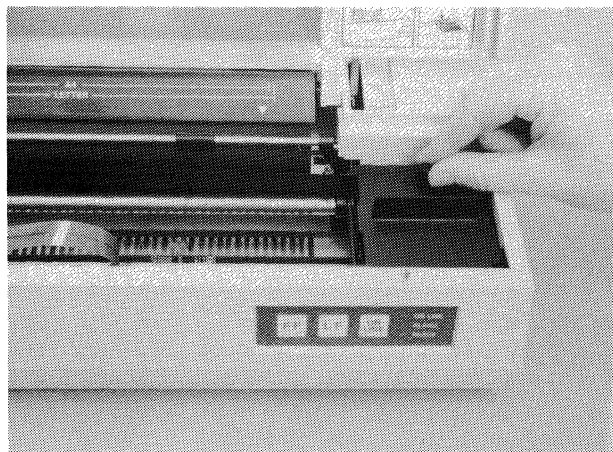

Figure 2-3D Tightening the Ribbon (Knob)
6. Return the print head to the left side of the printer, then tighten the ribbon by turning the small knob on the cassette (Figure 2-3D).